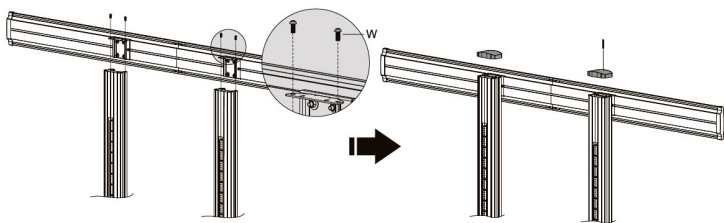
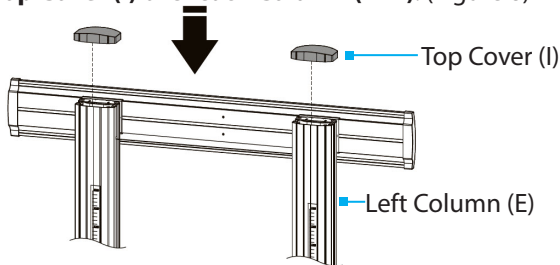

Figure 7
Figure 8
1. Place the **Universal Plate Assembly (C+J)** atop the **Left** and **Right Columns (E+F)** and align the four screw holes in the **Connectors (J)** with the two screw holes in each **Column (E+F)**. (Figure 7)
2. Insert four **M6 x 14 mm Screws (W)** through the **Universal Plates (C)** and into the **Columns (E+F)** (two for each **Column (E+F)**).
3. Tighten all four **M6 x 14 mm Screws (W)**, using a **Phillips Head Screwdriver**.
4. Affix one **Top Cover (I)** over each **Column (E+F)**. (Figure 8)